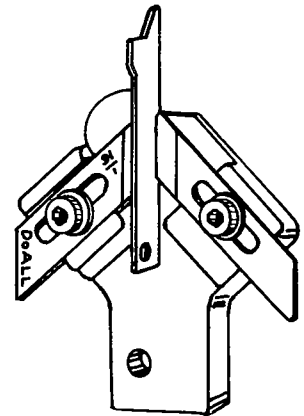

Figure 21
6. Place the thickness gage edgewise between the two inserts, (Fig. 21). Then bring the right hand insert down so that it rests against the thickness gage. When the gage is removed, the gap left will be the proper thickness for the saw blade.